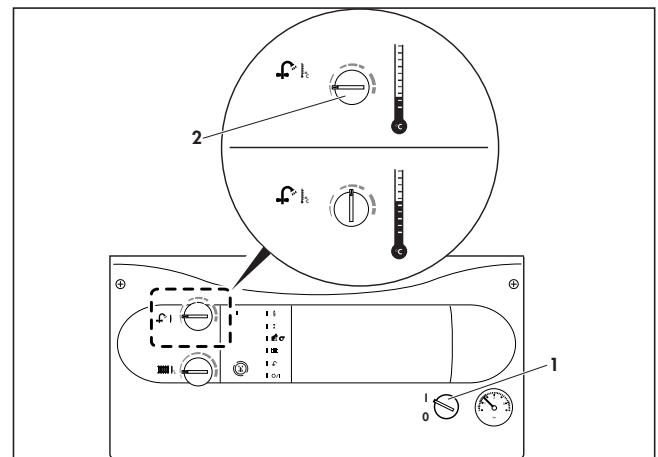

Fig. B.5: Domestic hot water supply
**If you live in a hard water area please do not set the control knob above the mid (12 o'clock) position to prevent excessiv scale formation (fig. B.5).**